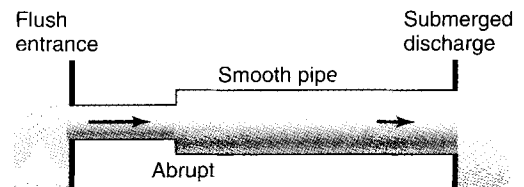

Figure P8.56
8.57 A smooth pipe consists of 12 m of 180-mm-diameter pipe followed by 75 m of 550-mm-diameter pipe with an abrupt change of cross section at the junction (Fig. P8.56). The entrance is flush and the discharge is submerged. If it carries water at 15°C, with a velocity of 5.7 m/s in the smaller pipe, what is the total head loss?